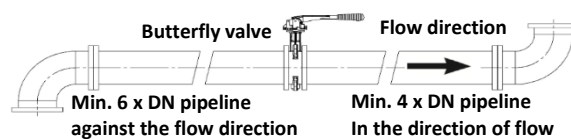

Fig. 1: Valve in pipeline
- Recommendation: The valves must be installed in piping with a stabilized flow. The general rules for stabilizing flow behind a pipe element causing turbulence (e.g., pump, other valves, etc.) must be observed. Generally, calculate a minimum of $6 \times \text{DN}$ upstream and a minimum of $4 \times \text{DN}$ downstream (Fig. 1), but this depends on the specific conditions specified by the designer.